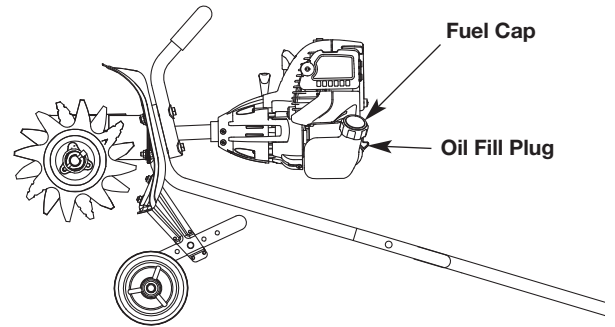

Fig. 5
3. **Set the unit on a flat, level surface.** Tip the unit back so that the handles touch the ground and the engine is in a horizontal position (Fig. 5).